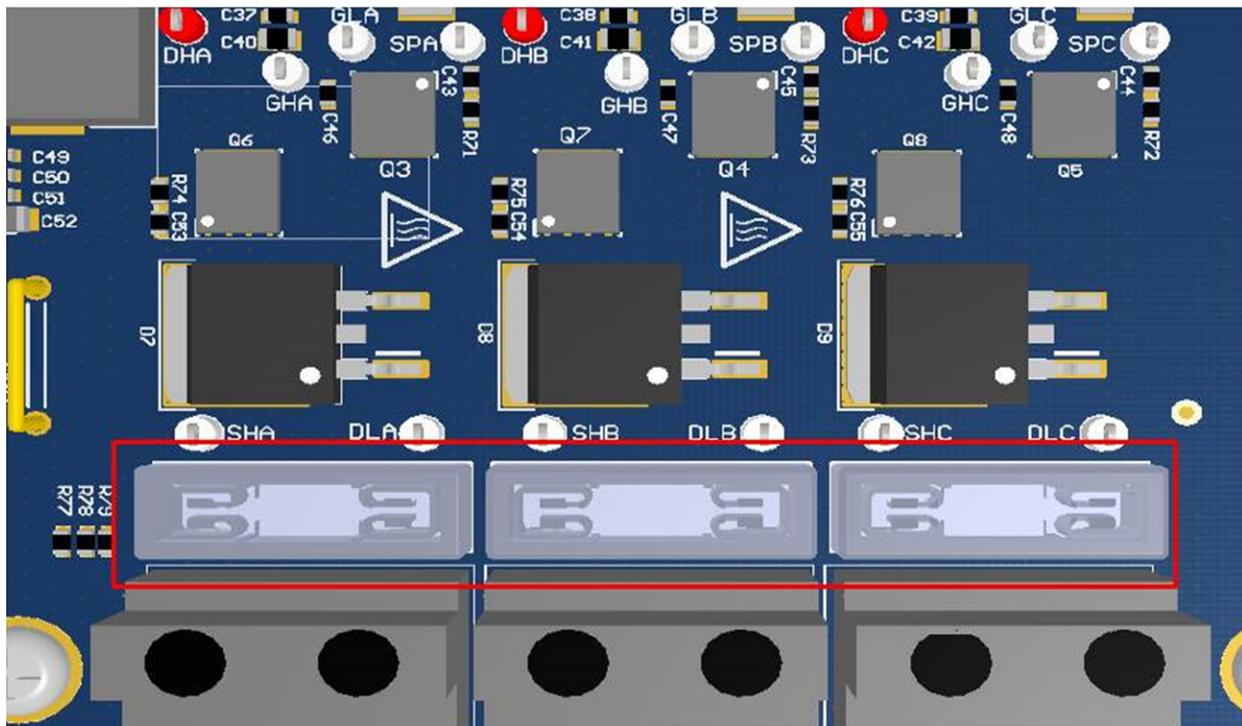

Figure 8. Remove Jumper Connectors
2. Remove the connector between the SHx and DLx output connections, F5, F6, F7, or all three (see Figure 8).